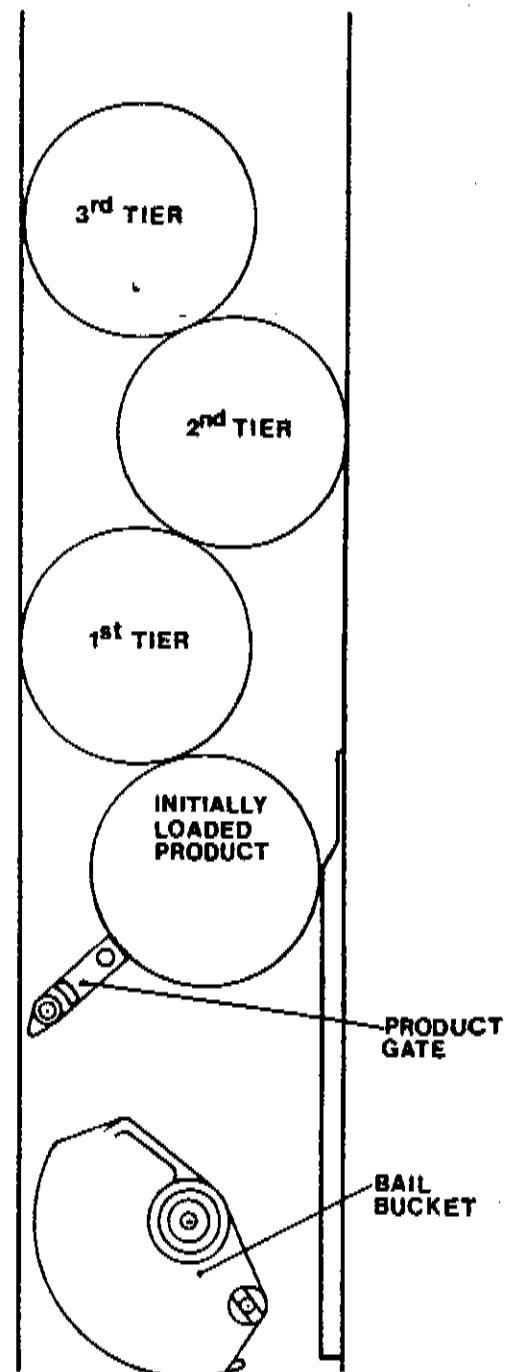

FIG. 27
4. Load at least 4 tiers of products on top of product(s) in the same manner as described in step 2. SEE FIGURE 27